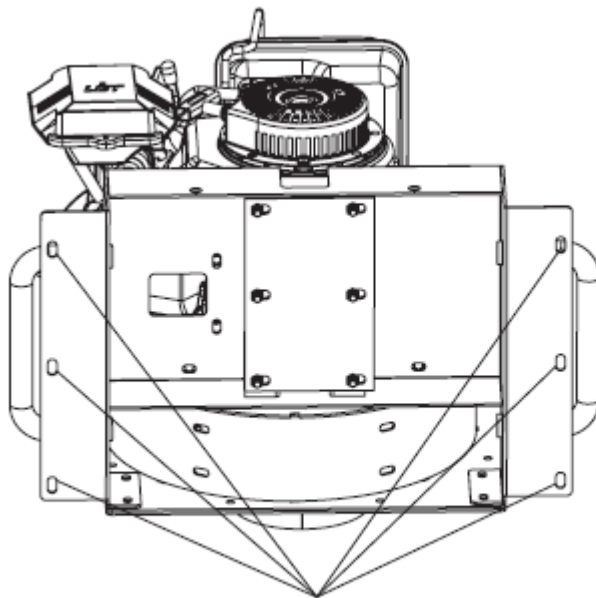

figure 1
Mount the Truck Loader Vac frame to the frame or swing away, and secure frame with six 3/8" hex head bolts, 3/8" flat washers, and 3/8" lock nuts. See figure 1.
- Secure the clamp plate with six (6) 3/8-16x1 bolts and six (6) 3/8-16 nylon insert flange nuts.
- Mounting hoses for the 3/8" hex head bolts. See figure 1.